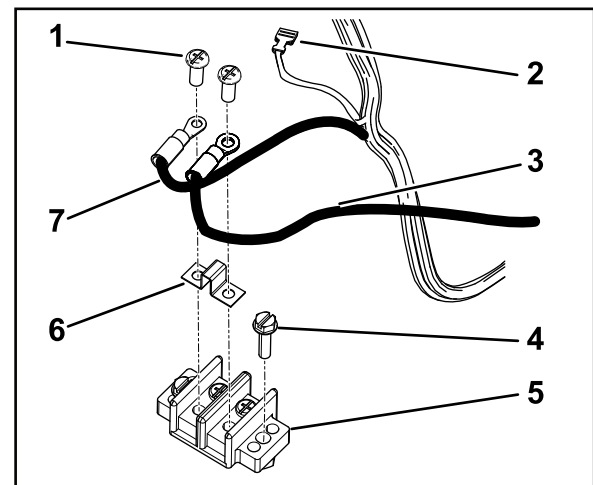

Figure 22
- B. Install the ground block in the location shown in Figure 22.
- C. Remove the terminal screws and install the jumper strip to the ground block as shown in Figure 22.
- D. Locate the black wire in the main deck harness and attach it to 1 side of the jumper strip on the ground block (Figure 22).
- E. Attach the black wire in the deck harness to the other side of the jumper strip (Figure 22).